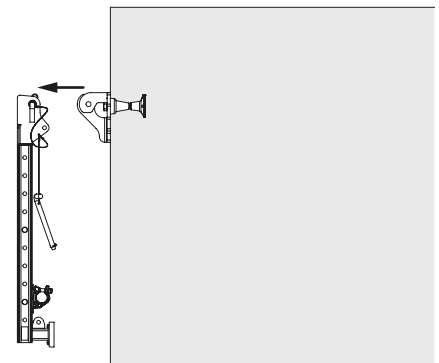

Fig. C3.07
- Dismantle and remove the bracket unit. (Fig. C3.07)